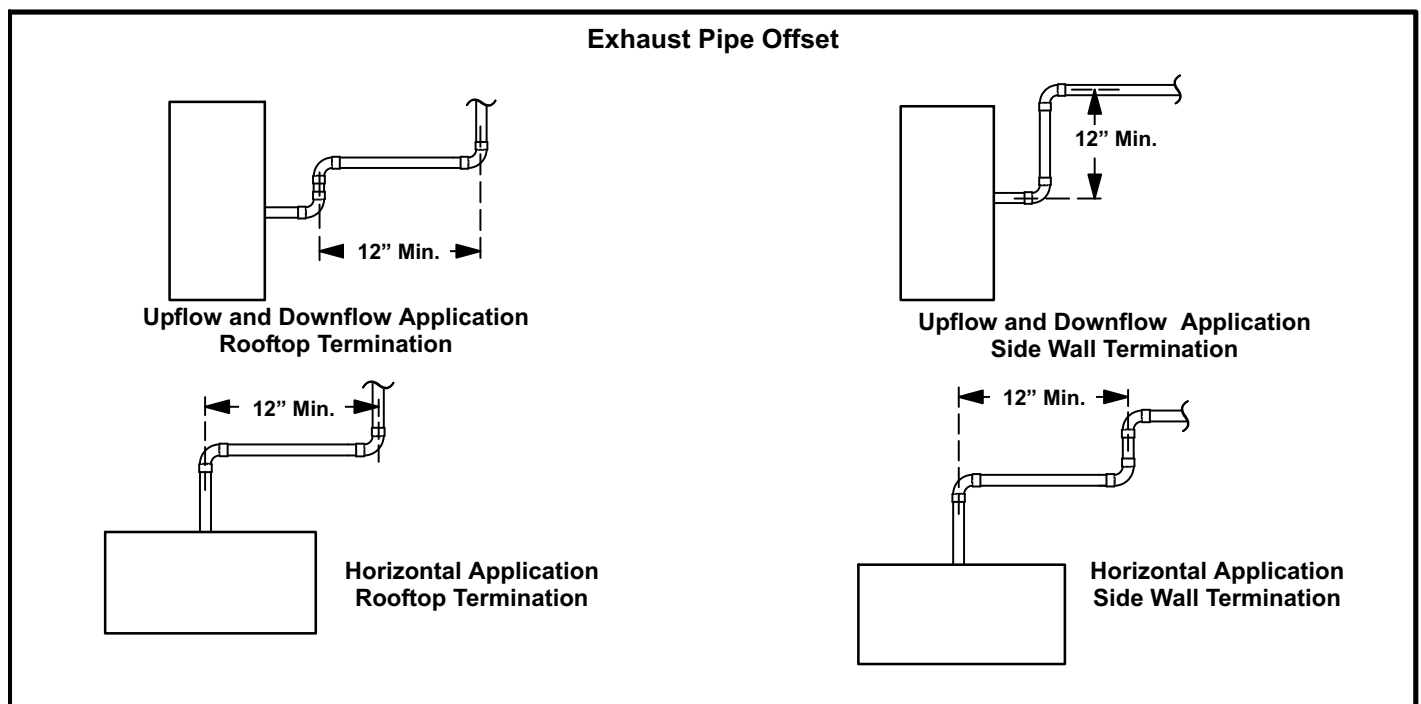

FIGURE 17
*NOTE - The exhaust pipe should be offset a minimum of 12 inches to avoid the possibility of water droplets being released from the exhaust termination. The minimum exhaust vent length is 15 ft. Shorter exhaust vent lengths may result in the discharge of water droplets from the exhaust termination, in spite of the 12-inch vertical offset. See figure 17.*